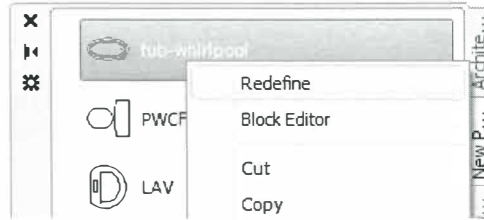

Figure 5–22
- You can update a block definition in the current drawing to match a block in the Tool Palettes by right-clicking and selecting **Redefine**, as shown in Figure 5–22.